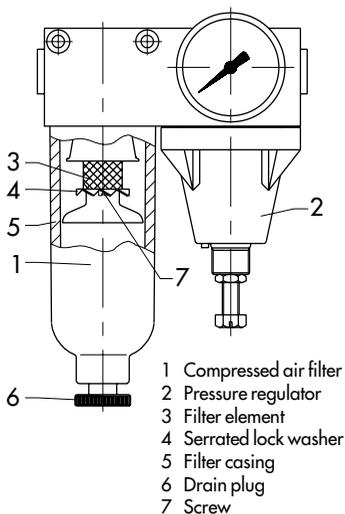

Figure 5 · Pressure reducing station
Pressure reducing station (Fig. 5)
It is recommended that the pressure reduction station (figure 5) filter be checked as often as possible. Let any fluid that may have collected flow out using the drain plug (6).